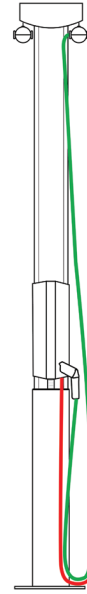

Figure 1.3 Cable hovers above ground
- Both loops should hover above the ground. See Figure 1.3 (Cable hovers above ground).